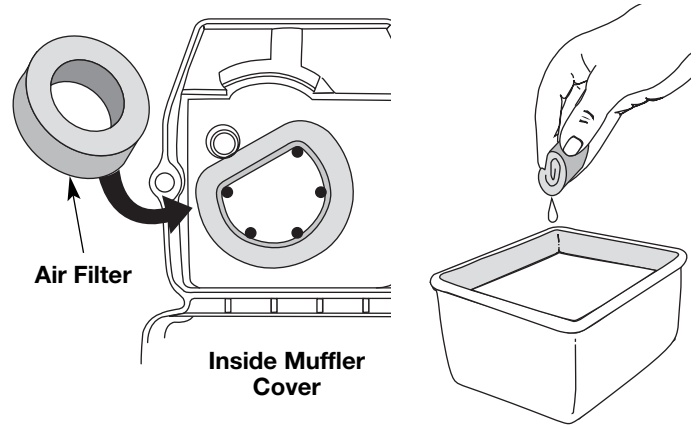

Fig. 14
2. Remove the air filter from inside the air filter/muffler cover (Fig. 14).
3. Wash the filter in detergent and water (Fig. 14). Rinse the filter thoroughly. Squeeze out excess water. Allow it to dry completely.
6. Replace the air filter inside the muffler cover (Fig. 14).